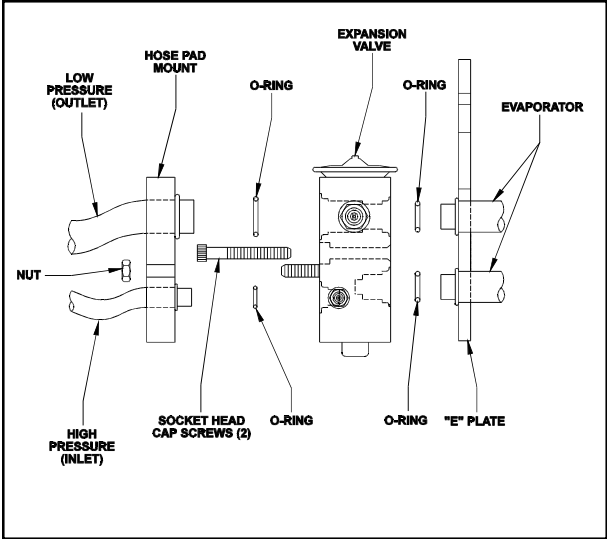

Figure 11-15: Cab Unit Pad Fittings
The Evaporator, Expansion Valve and the inlet and outlet refrigerant hoses are connected without the use of threaded fittings. (See Figure 11-15 and 11-16.) The "E" Plate is slipped over the evaporator tubes and the expansion valve is secured to it by means of two (2) socket head cap screws. Be sure that when you assemble these parts that the O-rings are in the proper location as shown in the figure. To insure proper sealing of the O-rings, the cap screws must be properly torqued. (See Table 11-2)